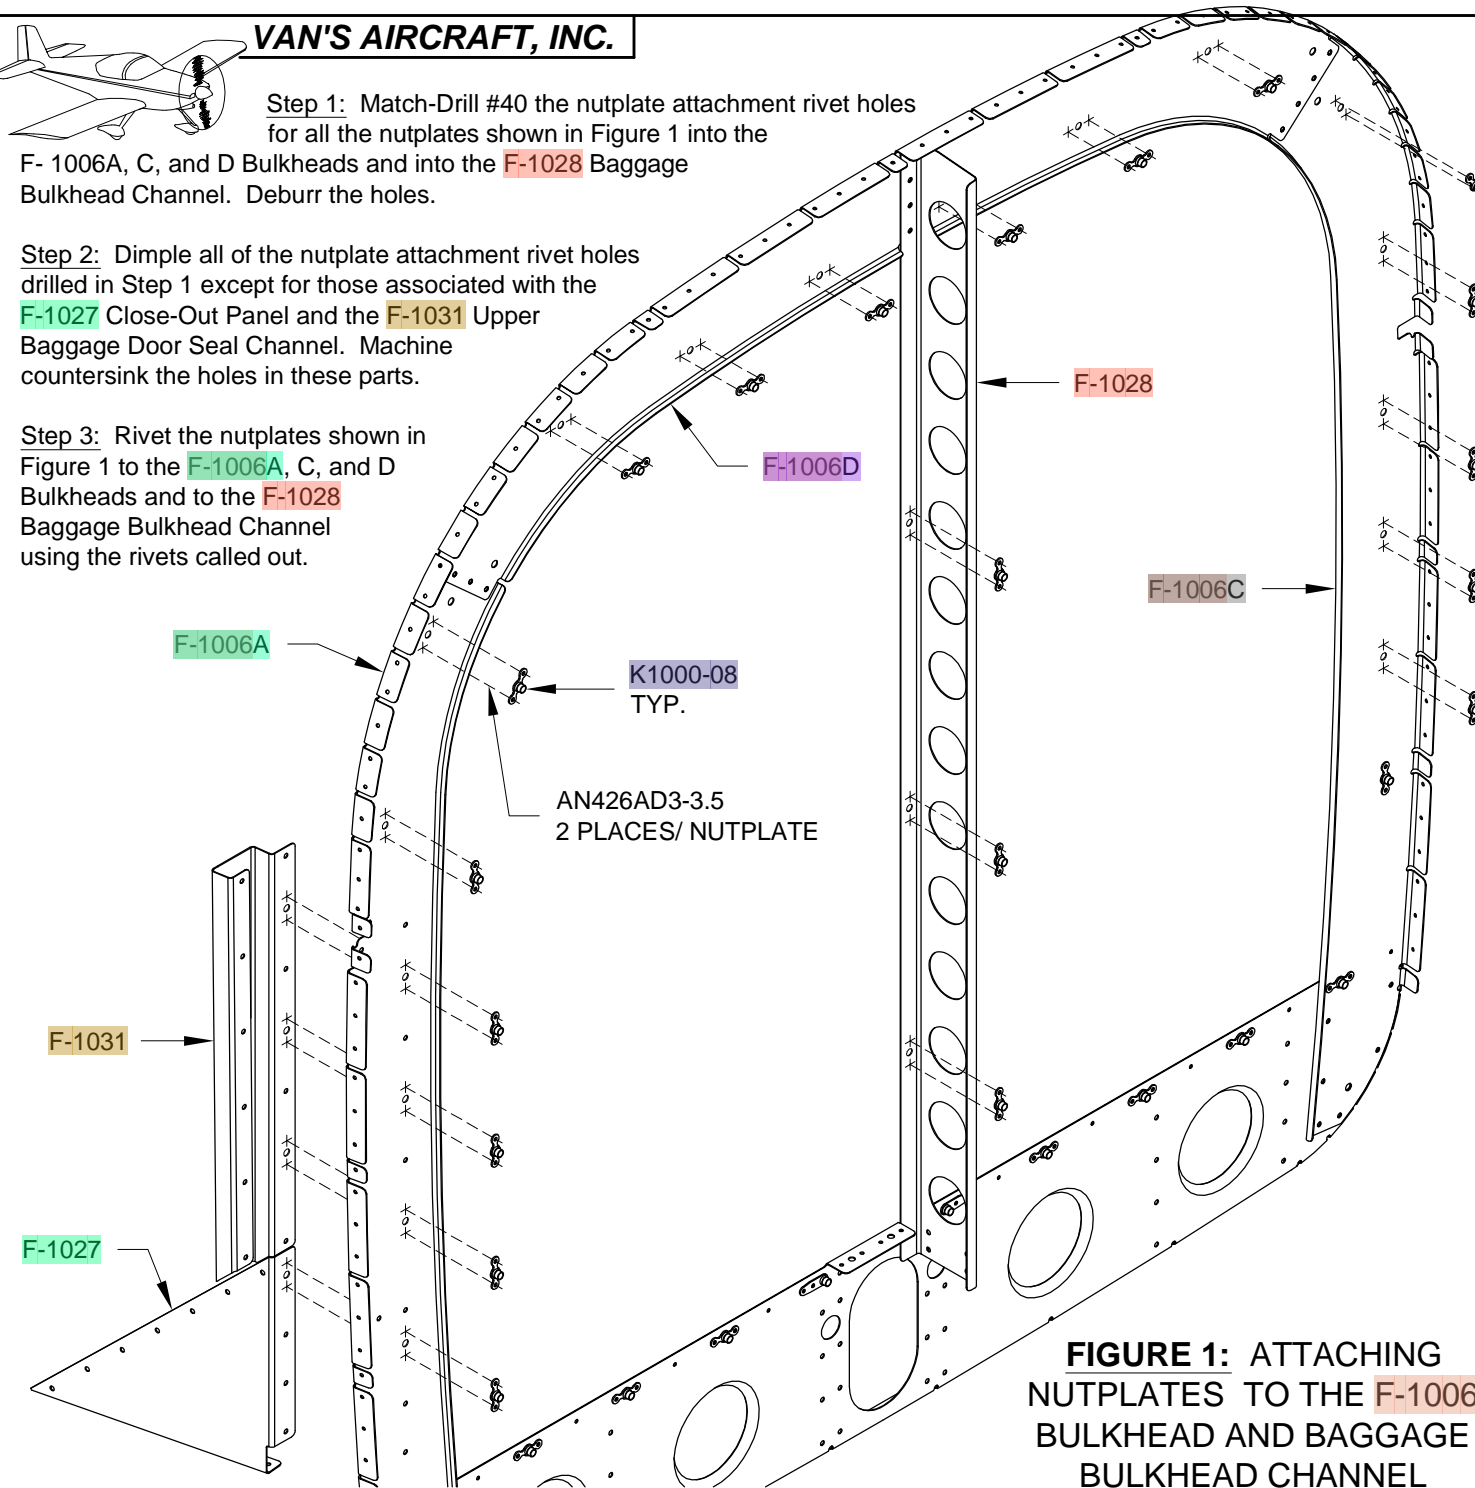

FIGURE 1: ATTACHING NUTPLATES TO THE F-1006 BULKHEAD AND BAGGAGE BULKHEAD CHANNEL
Step 3: Rivet the nutplates shown in Figure 1 to the F-1006A, C, and D Bulkheads and to the F-1028 Baggage Bulkhead Channel using the rivets called-out.